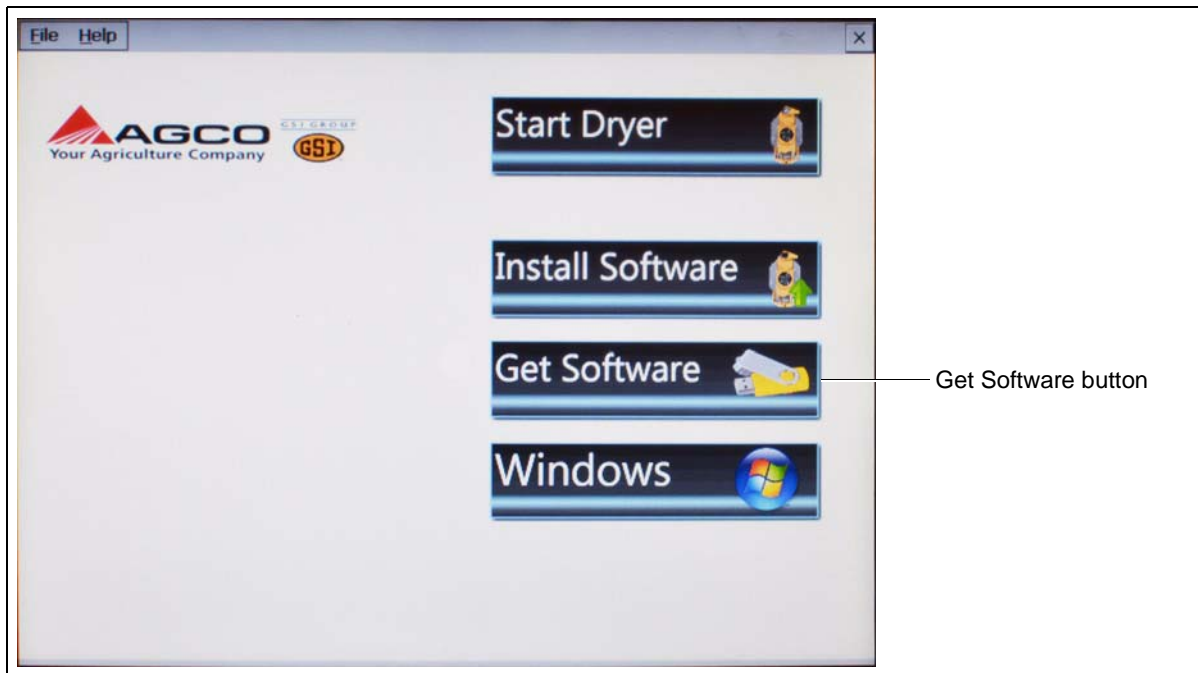

Figure 4C
2. When the “Boot Screen” appears, touch the “Get Software” button. (See Figure 4C.)